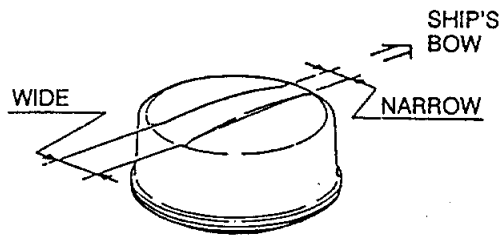

Figure 6-8 Radome Cover Placement
6. Put the radome on the radome base assembly, orienting the narrower recessed part in the direction of the bow. See Figure 6-8.